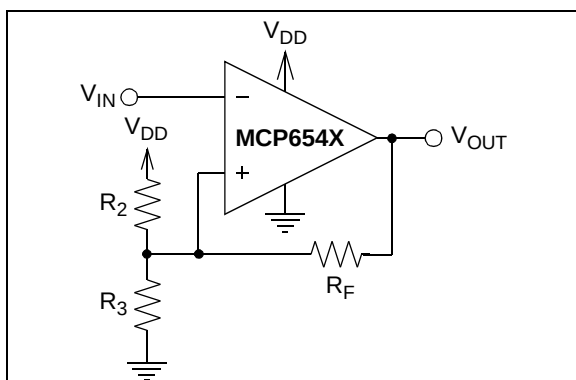
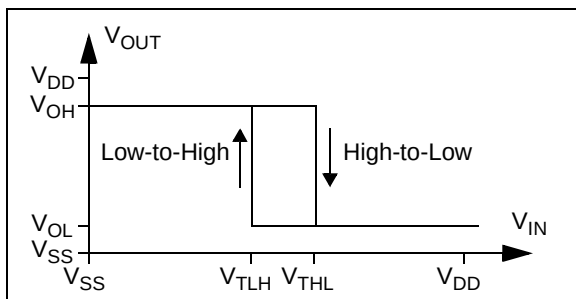
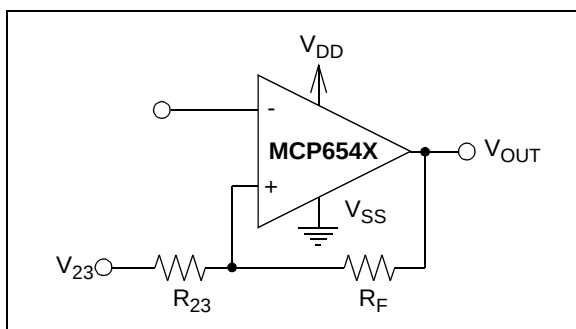

**FIGURE 4-6:** Inverting Circuit With Hysteresis.
**FIGURE 4-7:** Hysteresis Diagram for the Inverting Circuit.
**FIGURE 4-8:** Thevenin Equivalent Circuit.
Figure 4-6 shows an inverting circuit for single-supply using three resistors. The resulting hysteresis diagram is shown in Figure 4-7.
In order to determine the trip voltages ( $V_{THL}$  and  $V_{TLH}$ ) for the circuit shown in Figure 4-6,  $R_2$  and  $R_3$  can be simplified to the Thevenin equivalent circuit with respect to  $V_{DD}$ , as shown in Figure 4-8.
1. Inverting Configuration (Figures 4-6 and 4-9):